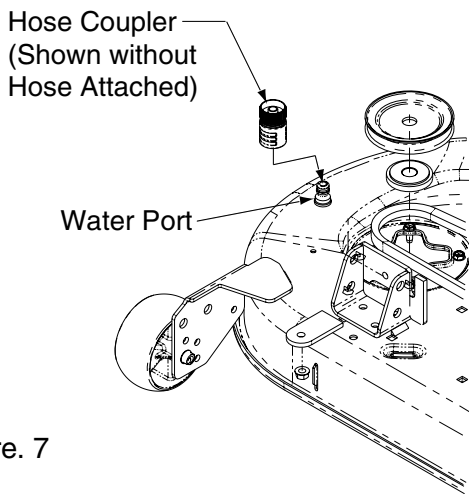

Figure. 7
- e. Thread hose coupler (packaged with this manual) onto the end of your garden hose. See Figure 7.
- f. Attach the hose coupler to the water port on your mower deck’s surface. See Figure 7. Turn the water on.